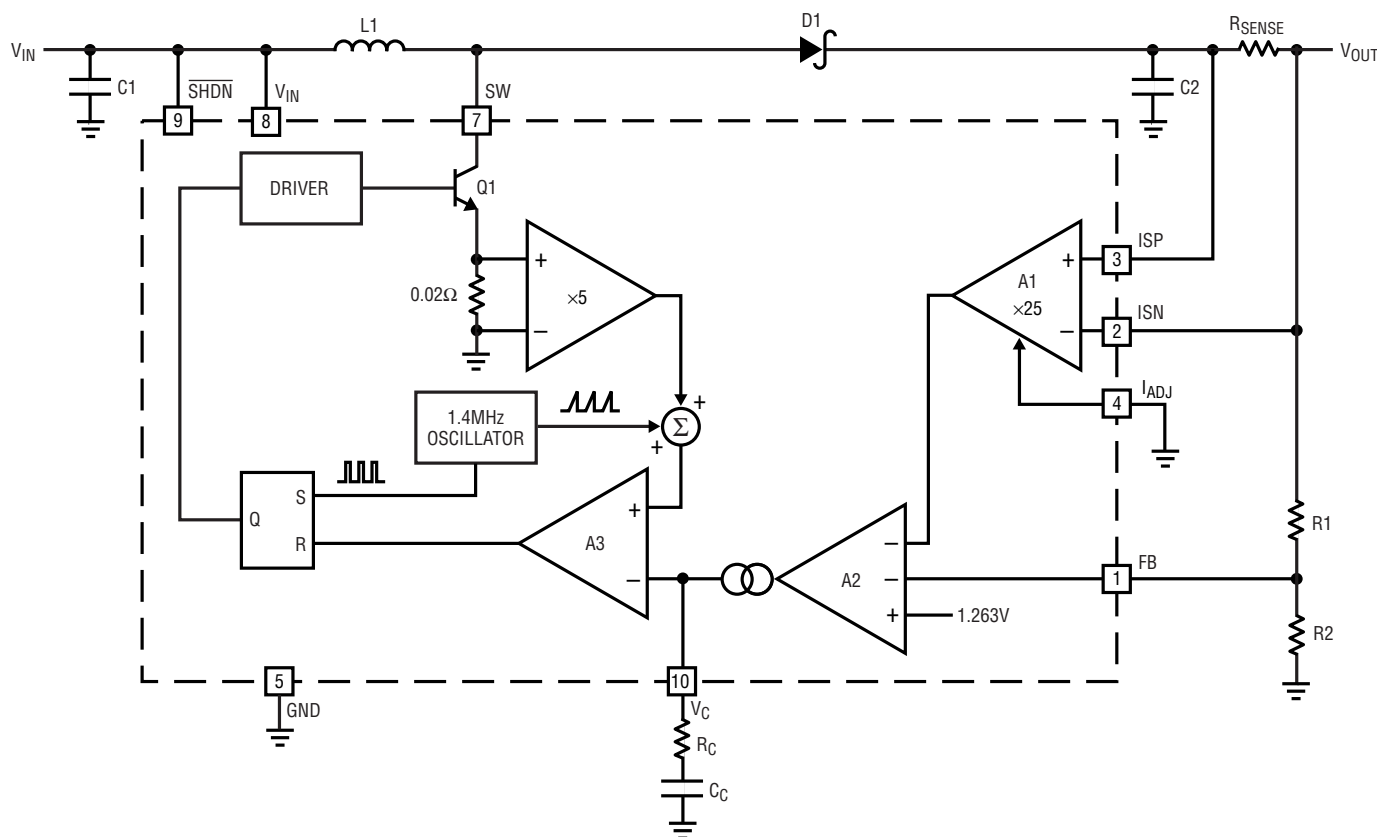

Figure 1. LT1618 Block Diagram
**FB (Pin 1):** Feedback Pin. Set the output voltage by selecting values for R1 and R2 (see Figure 1):
The LT1618 uses a constant frequency, current mode control scheme to provide excellent line and load regulation. Operation can be best understood by referring to the Block Diagram in Figure 1. At the start of each oscillator cycle, the SR latch is set, turning on power switch Q1. The signal at the noninverting input of PWM comparator A3 is a scaled-down version of the switch current (summed together with a portion of the oscillator ramp). When this signal reaches the level set by the output of error amplifier A2, comparator A3 resets the latch and turns off the power switch. In this manner, A2 sets the correct peak current level to keep the output in regulation. If the error amplifier's output increases, more current is delivered to the output; if it decreases, less current is delivered. A2 has two inverting inputs, one from the voltage feedback loop, and one from the current feedback loop. Whichever inverting
To set the output voltage, select the values of R1 and R2 (see Figure 1) according to the following equation.